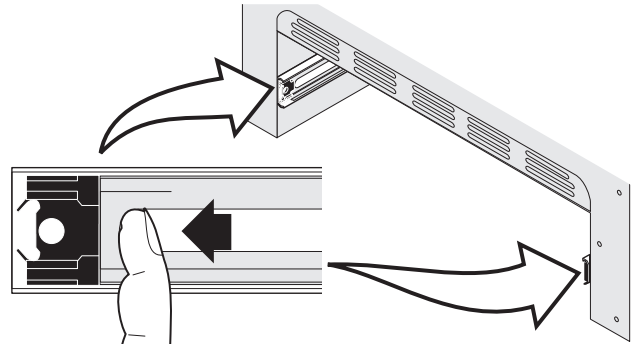

Figure 49: Bearing glide placement
1. Pull the bearing glides to the front of the outer compartment glide channels until they snap into place (See Figure 49).